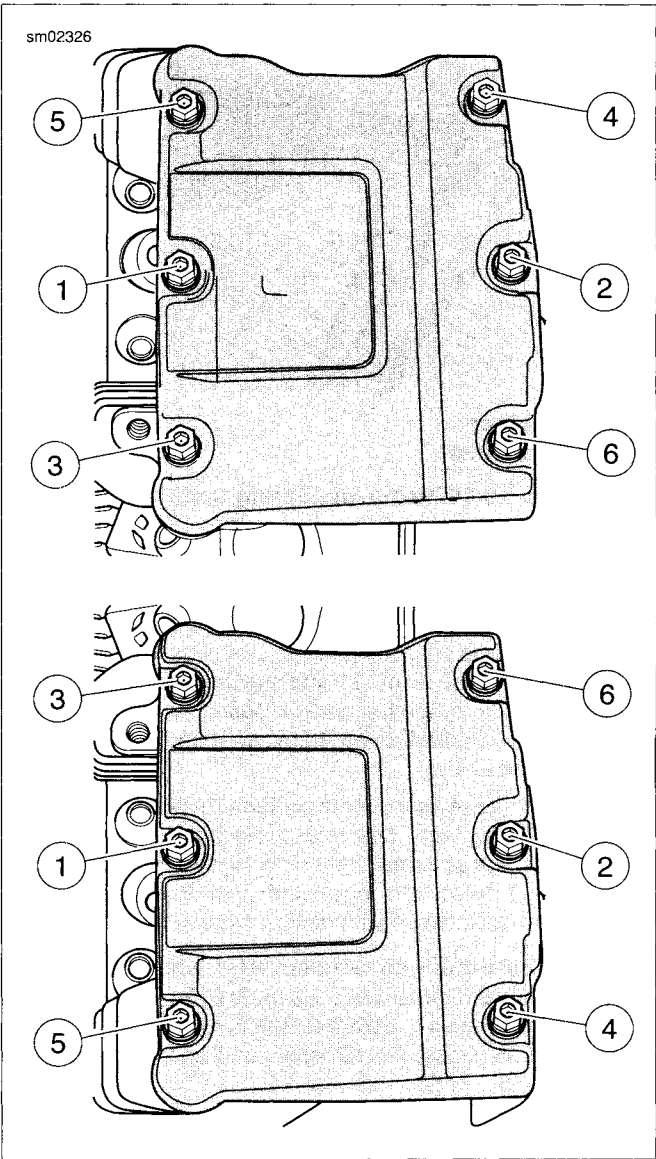

Figure 3-17. Rocker Cover Bolt Removal Sequence
- 2. See Figure 3-17. Following the sequence shown, alternately loosen the six rocker cover bolts. Remove the rocker cover bolts and their captive washers.